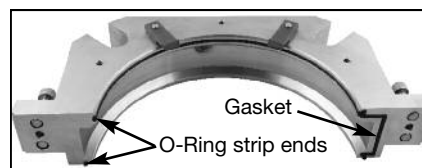

Figure 17
3. Lightly lubricate the exposed surfaces of the split joint gasket and the O-Ring strip free ends with the provided lubricant on each gland plate assembly half. Figure 17.